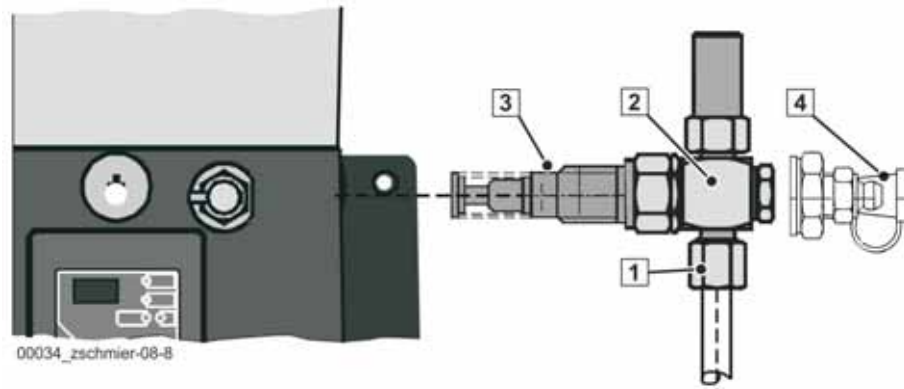

Fig. 525
- Remove the main lines (1) (**Fig. 525**) from the male connector (2) (**Fig. 525**) on the pump elements (3) (**Fig. 525**)
Furthermore, “emergency grease nipples” (4) (**Fig. 525**) are available on the male connectors of the pump elements.